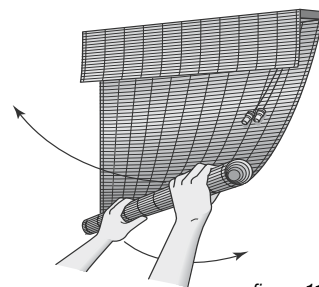

figure 11
1. If your window covering doesn't lie flat against the window casement or flares to one side, roll the product up tightly by hand and gently twist the shade or panel against the direction of the flare (*figure 11*). If this doesn't help, please contact Customer Relations for assistance at 888.582.8780.